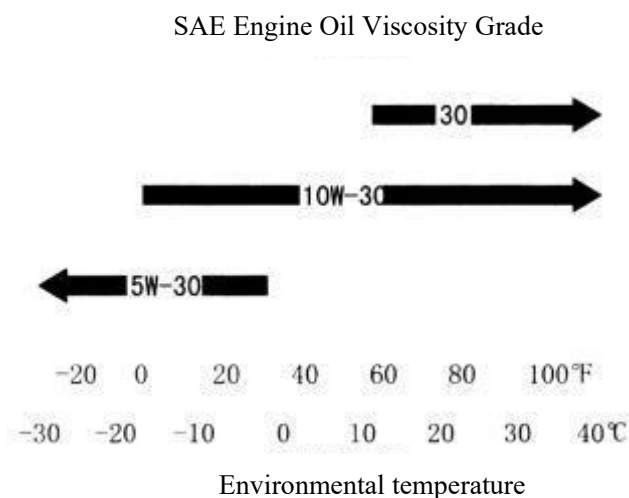

Fig. 6
4.3.3 The recommended environmental temperature of the machine is -15°C - 40°C. Recommend use of 4-stroke engine oil. SAE 10W-30 engine oil which equals to API classification SE, SF, and SG. Fig. 6 below is SAE Engine Oil Consistence Table.